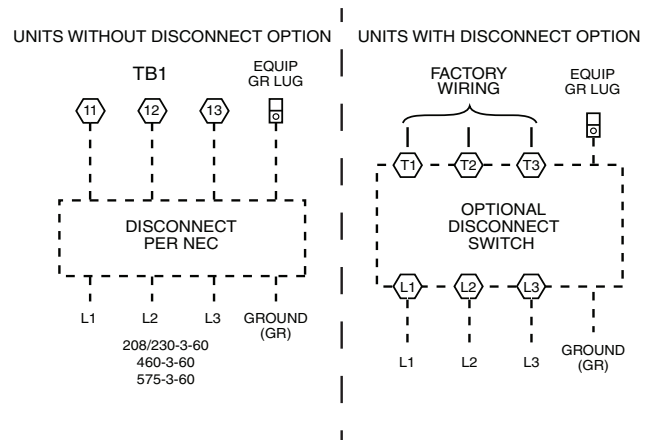

Fig. 44 — Power Wiring Connections
Size wire based on MCA (Minimum Circuit Amps) on the unit informative plate. See Fig. 44 for power wiring connections to the unit power terminal block and equipment ground. Maximum wire size is 2/0 AWG per pole.
3. Install power lines to terminal connections as shown in Fig. 44.